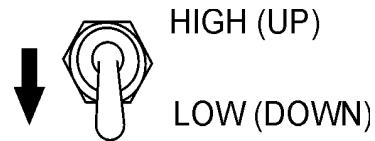

Figure 60. Engine Speed Switch (Low)
4. Place the engine speed switch in the **"LOW"** position (Figure 60)